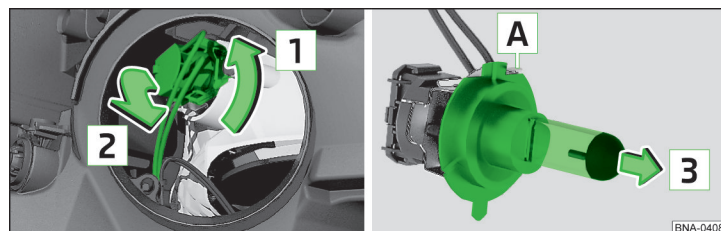

Fig. 111 Changing the bulb for the low beam
- Turn the plug with the light bulb in the direction of arrow **1** and pull out in the direction of arrow **2** » fig. 111.